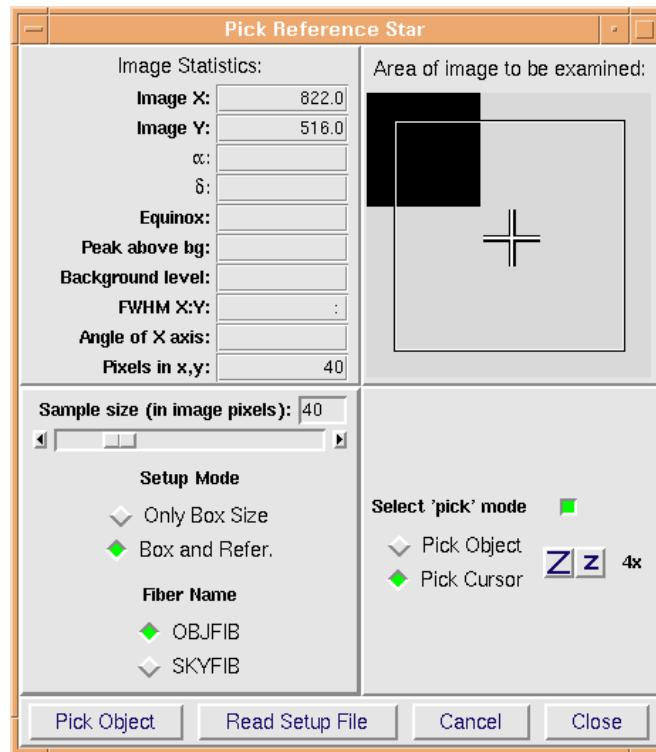

Figure 6.1: Window to set **FEROS** fibre reference position **Pick Reference Star**. Select checkbox **Pick Cursor**.
- a. Open or activate window **Pick Reference Star** (Fig. 6.1, p. 57).